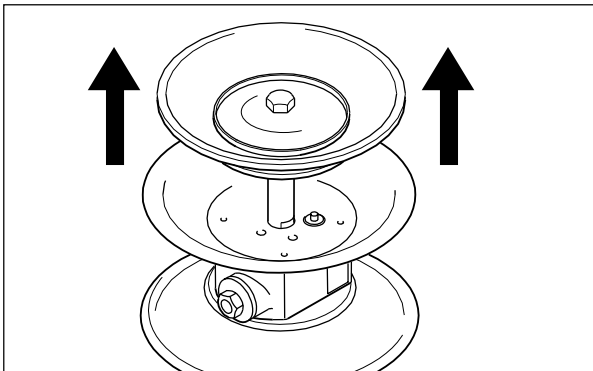

Fig. 12: Pulling out the piston rod.
- Pull the piston rod with the second diaphragm out of the central block and disassemble the second diaphragm as described before (Fig. 12).